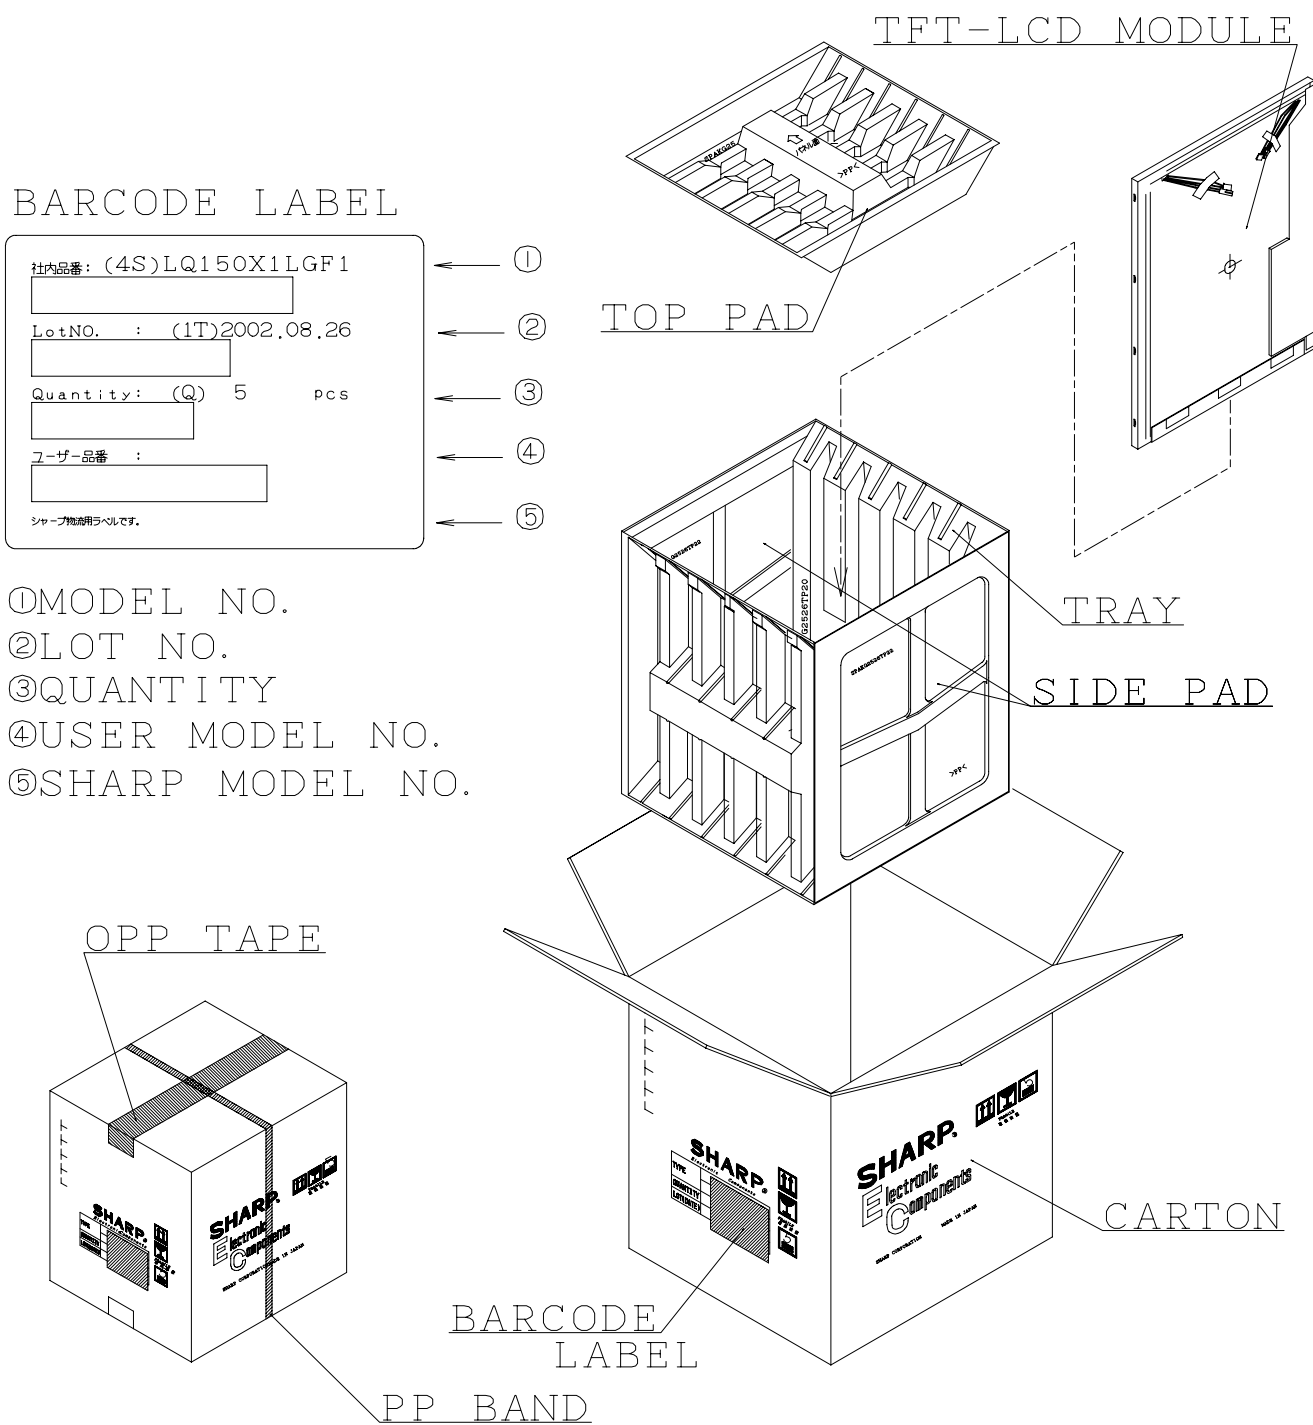

Fig 3 Packing Form
- e) Packing form is shown in Fig.3